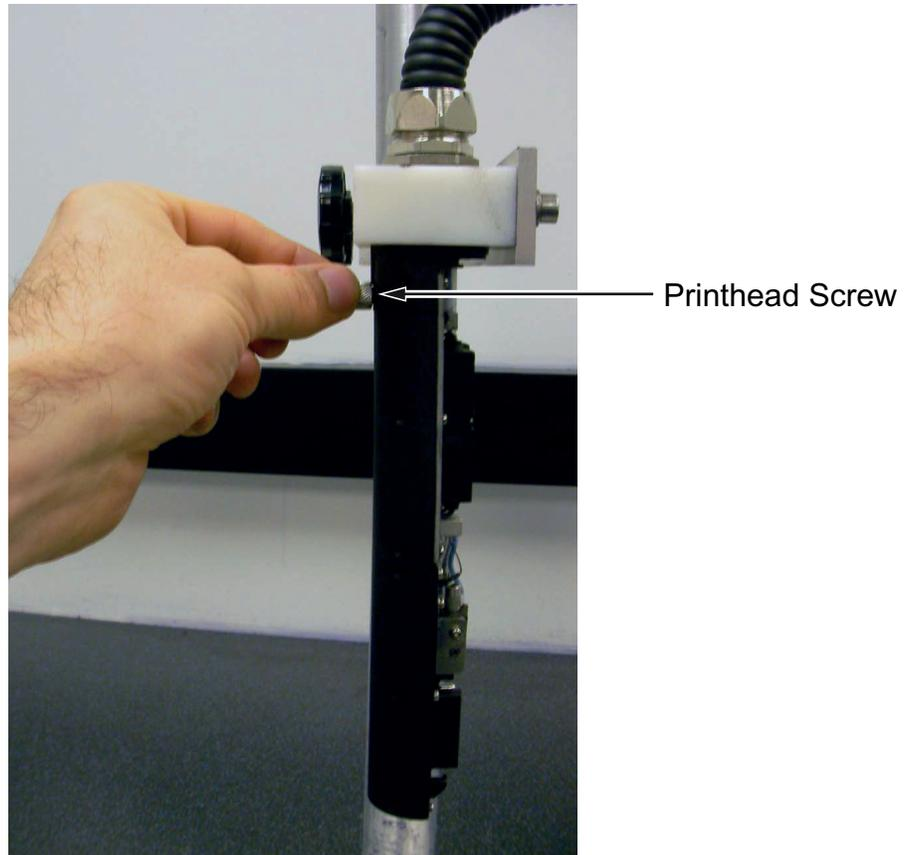

Figure 7-2: Printhead Screw
2. Locate the printhead screw into the printhead (Figure 7-2) and make sure that the screw is in contact with the earth wire in the umbilical.